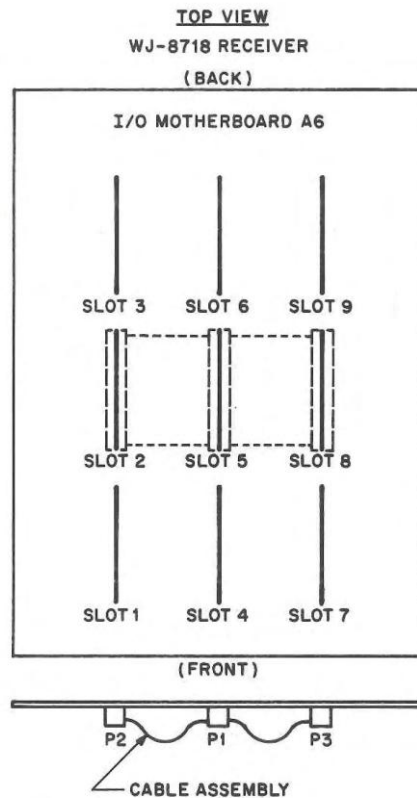

Figure 21: The ribbon cable assembly that is needed between the slots 2, 5 and 8 of the A6 I/O MB.
1) A proper ribbon cable assembly (that may be built from scratch using proper connectors and a 64-pole flat cable) has to be installed among the slots 2, 5 and 8 of the A6 *I/O* Motherboard (Figures 21 and 22).